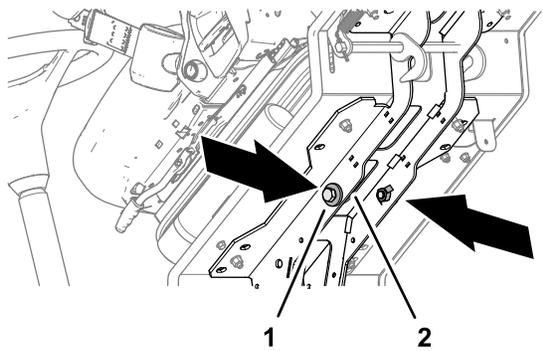

Figure 40
3. Tilt the platform forward and remove the 2 bolts 12 x 40 mm and 2 washers 12 mm stored in the platform support rails (Figure 40).